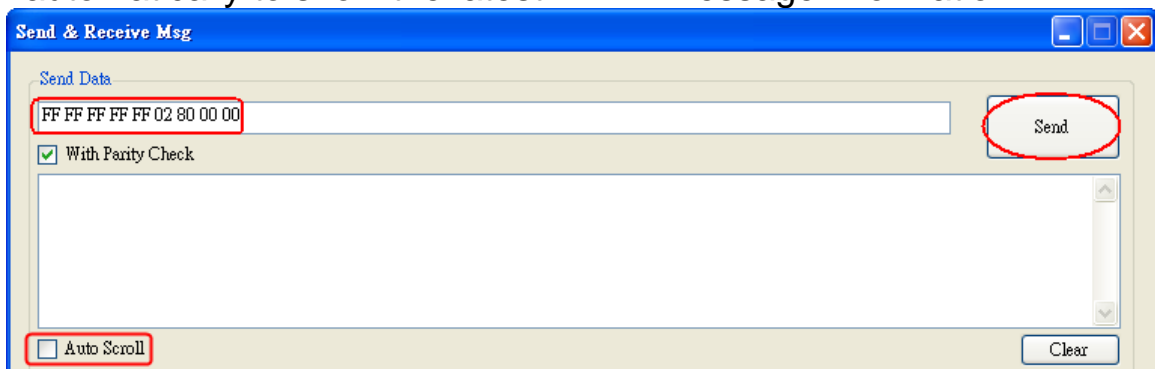

Figure 4-11: Send HART Command
(2) Please type the HART command in the “Send Data” field and click “Send” button to send out the HART command like Figure 4-11.